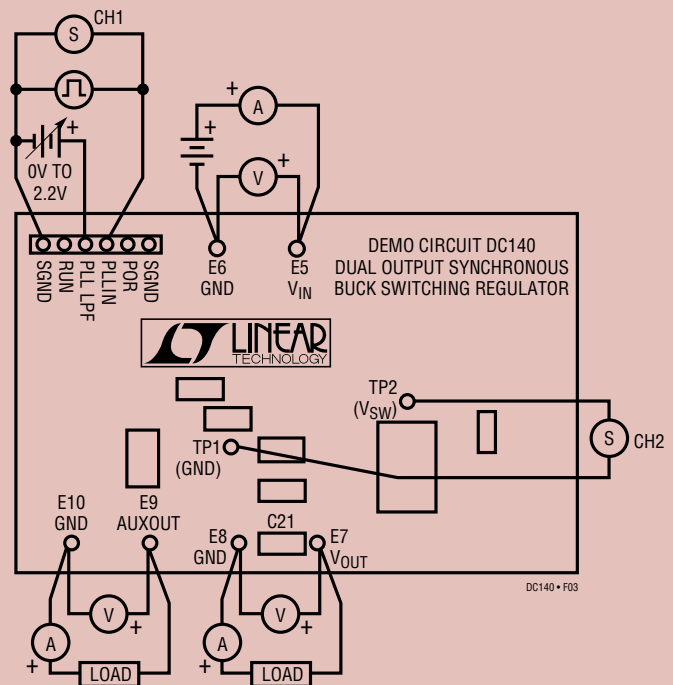

Figure 3. Proper Measurement Setup
1. Connect the input voltage power supply, output loads and meters as shown in Figure 3. For best accuracy, it is important to connect true RMS reading voltmeters directly to the PCB terminals where the input and output voltages are to be measured. True RMS reading ammeters should also be used for current measurements.
3. Connect a pulse generator and oscilloscope between SGND and PLLIN, as shown in Figure 3. Adjust the pulse-generator output for a peak voltage of 2V to 9V, adjust the frequency to about 250kHz and set the duty cycle to about 50%. Note, the circuit will not be damaged if the pulse generator is turned on or off, regardless of whether the input voltage to the DC140 is turned on or turned off.
5. As an alternate method of controlling the V_{SW} frequency, turn off the pulse generator and connect an adjustable bias supply between SGND and PLL LPF, as shown in Figure 3. Set the oscilloscope to trigger on channel 2 and observe the frequency change as the bias supply voltage is adjusted from 0V to 2.2V. Caution: the **absolute maximum** voltage rating of the PLL LPF pin is 2.7V. Although the DC140 has a 10k protection resistor between the IC and the PLL LPF terminal, the bias supply voltage should never be greater than 2.7V.